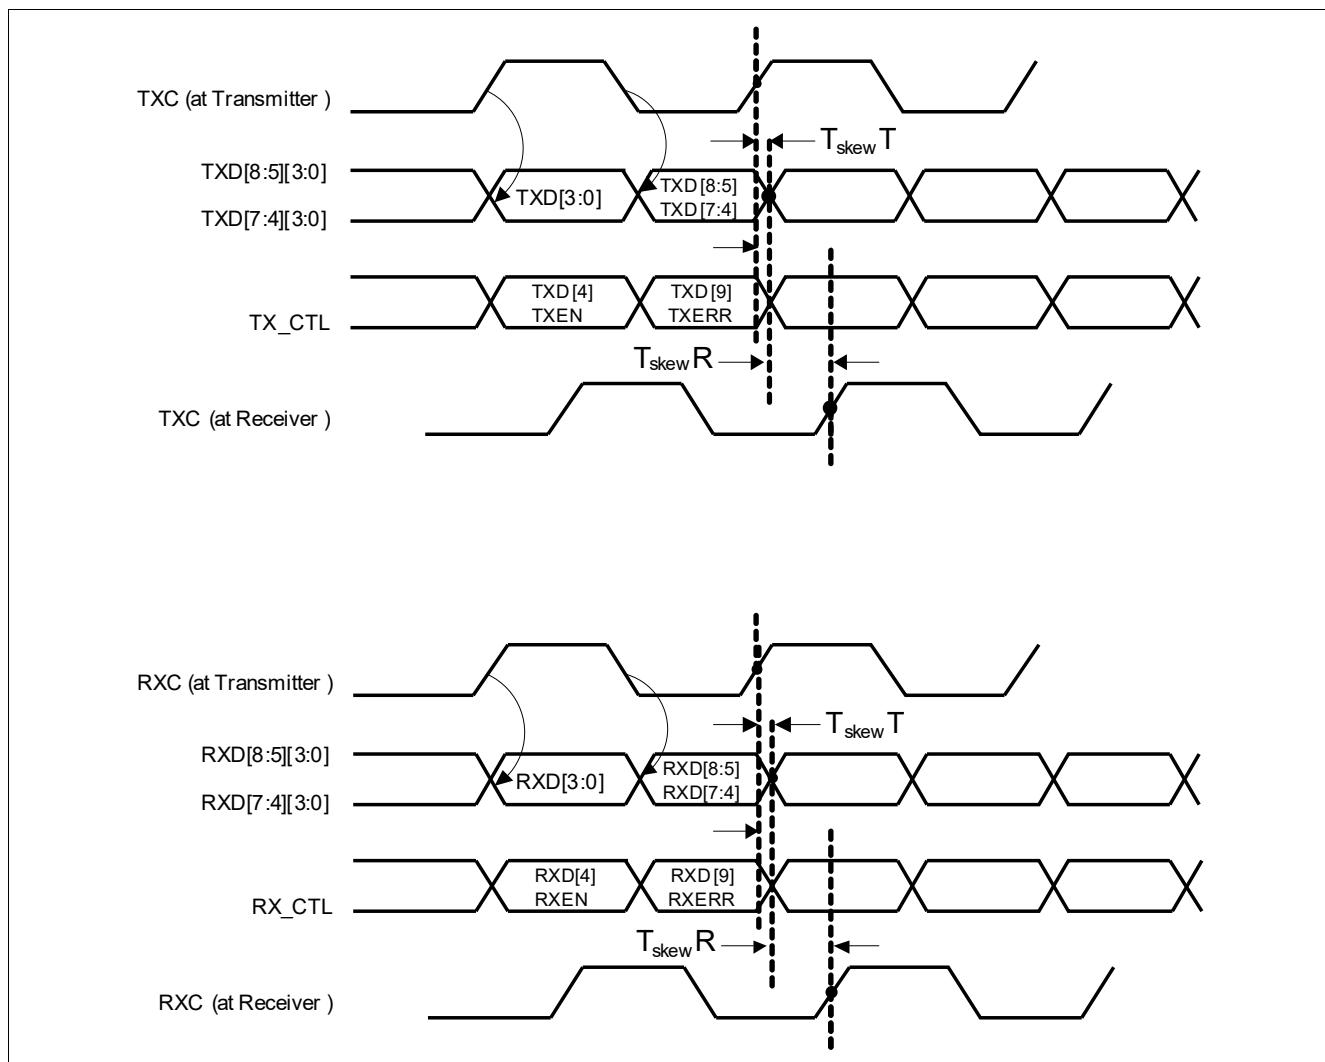

Figure 53 Timing Diagram of the RGMII
**Figure 53** shows the timing diagram of the RGMII interface at the Gigabit Ethernet Switch. **Table 81** characterizes the timing requirements. The setup and hold times are subject to the internal version of the TX\_CLK/RX\_CLK which is the external clock delayed by the integrated delay and adjustable in steps of 0.5ns via PCDU register configuration. When the integrated delay is not used, e.g. because its implemented externally by PCB wire delays, it must be set to zero in which case all the timings are related directly to the TX\_CLK/RX\_CLK at the pin.